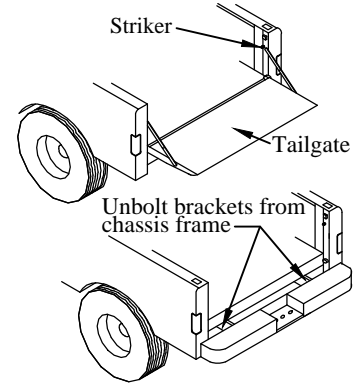

Figure 5: Remove Hardware.
1. **Remove** the tailgate (Figure 5).
2. **Remove** and **Save** the tailgate strikers (Figure 5). Each striker has a washer that will be reused.